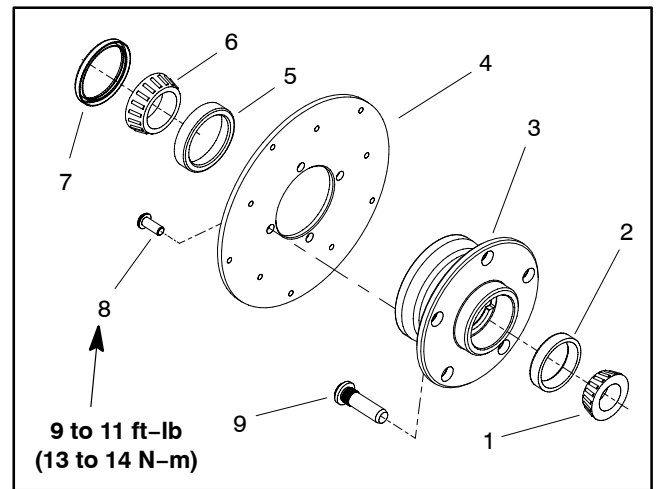

Figure 12
8. Disassemble the wheel hub (Fig. 12):
3. Assemble wheel hub (Fig. 12):